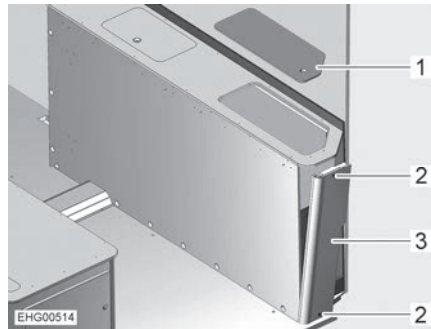

Fig. 107 Bedding box on the right
- Remove the service cover (Fig. 107,1).
- Unscrew 2 screws (Fig. 107,2).
- Reach into the bedding box from above and press the side wall (Fig. 107,3) slightly outwards.